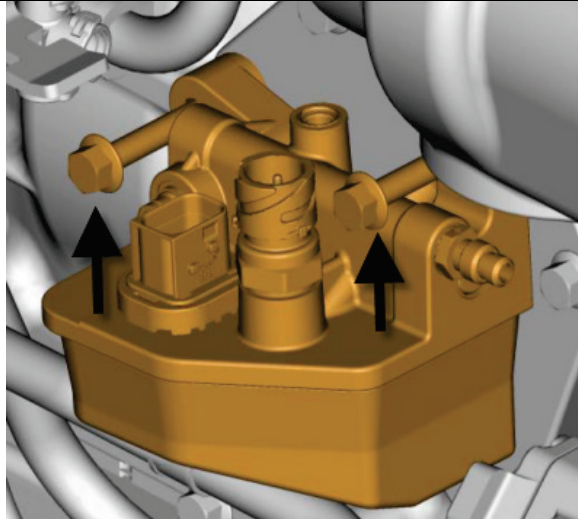

FIGURE 4
- 7) Remove the mounting fasteners and aftertreatment hydrocarbon dosing module from the mounting bracket (FIGURE 4).
- 8) Install the aftertreatment hydrocarbon dosing module onto the mounting bracket (FIGURE 4) with shorter screw on right side. Tighten the fasteners to specification.